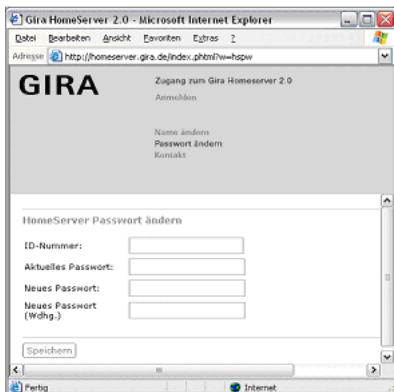

Fig 4.6: Input screen for changing the password.
- Click on **Passwort ändern** (change password). An input screen appears in which you can make several entries (see Figure 4.6).